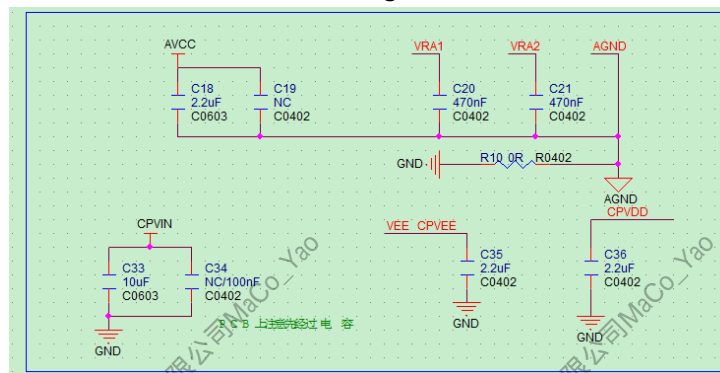

Figure 2-38 Audio Codec External Circuit
- The ground points of AVCC, VRA1, VRA2, and AGND are gathered to a point and must connect to a 0R resistance to GND. The parameters of the resistor and capacitor on the external network of the Audio CODEC module cannot be modified. As shown in Figure 2-38.